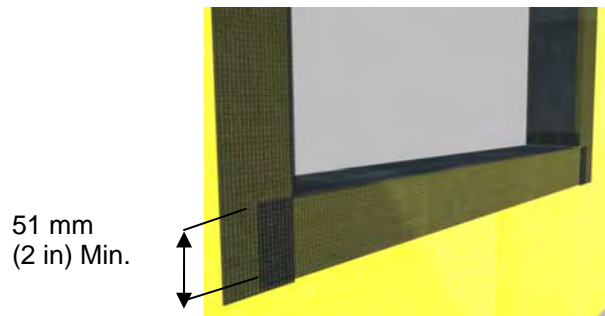

Figure 3
- 4) Install the AquaFlash System at the jambs in the same manner overlapping onto the sill material a minimum of 51 mm (2 in) – Figure 3.